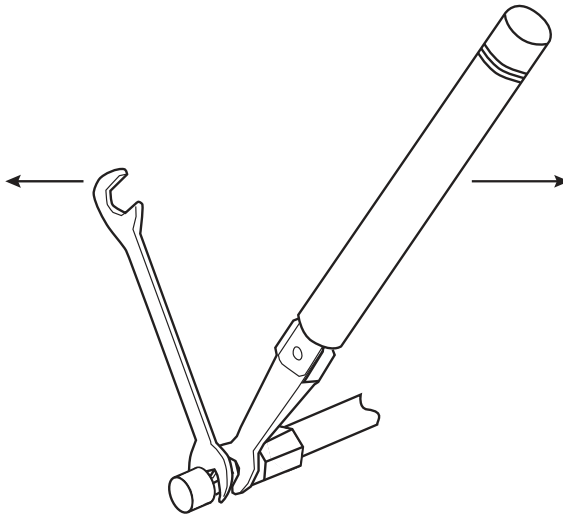

Figure 4-7. Loosening Connectors
1. Use the same wrenches as shown in Figure 4-7.